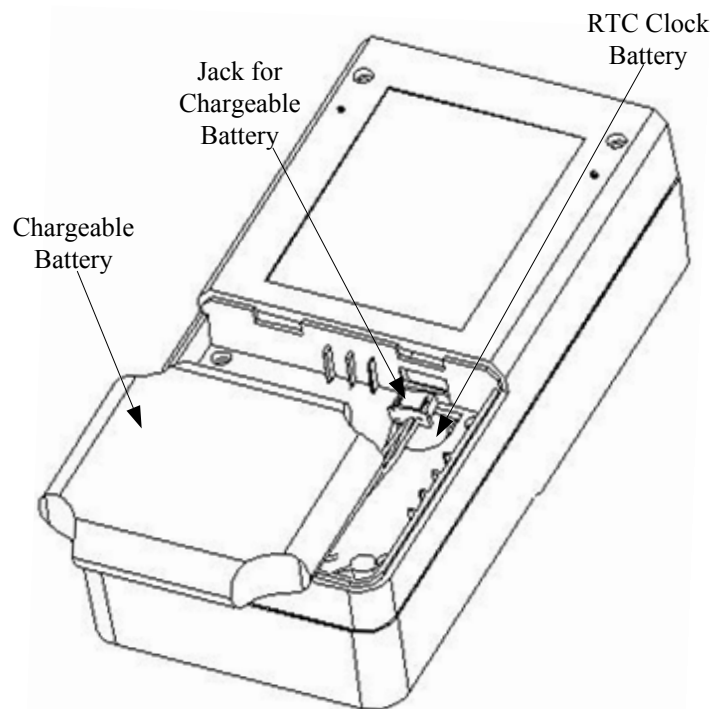

Figure 5-1. Replacing Battery
- As in figure 5-1, procedure of replacing battery is as follows.